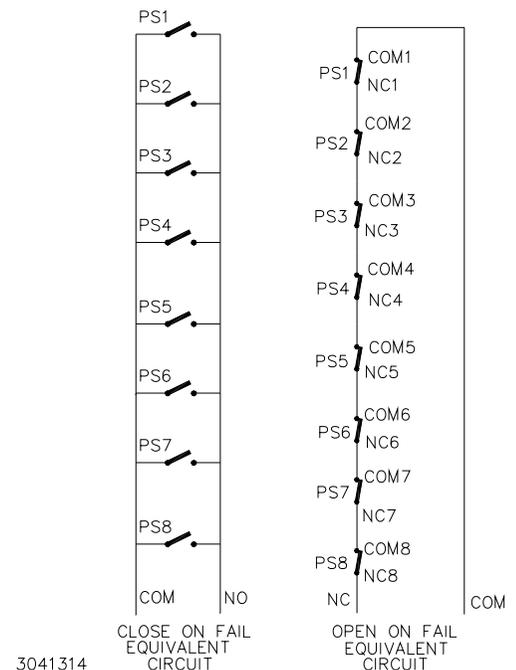

FIGURE 3. TYPICAL ALARM CIRCUIT DIAGRAMS
■ **ALARM:** The Alarm NC (normally closed) - Open on Failure and Alarm NO (normally open) - Close on Failure lines are relay contacts referenced to Alarm Common. If the unit fails, the path between Alarm NC - Open on Failure and Alarm Common opens, the path between Alarm NO - Close on Fail and Alarm Common is a short circuit. Figure 3 illustrates typical Close on Fail and Open on Fail circuits to give a failure indication if any one of a number of power supplies fail.